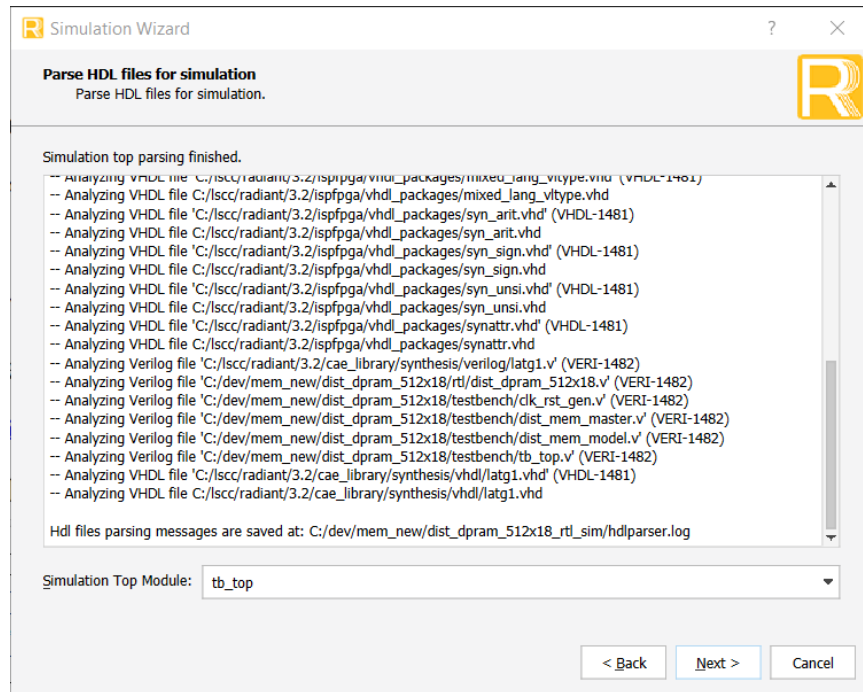

Figure 3.7. Simulation Wizard Parse HDL files for simulation
- Click **Next** to open the **Parse HDL files for simulation**. Set **tb_top** as the **Simulation Top Module** as shown in Figure 3.7.